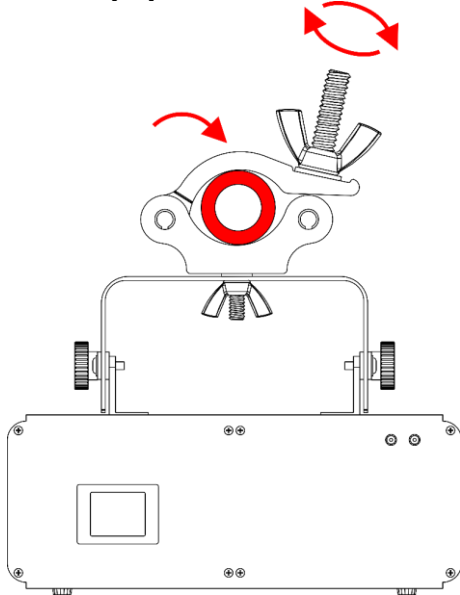
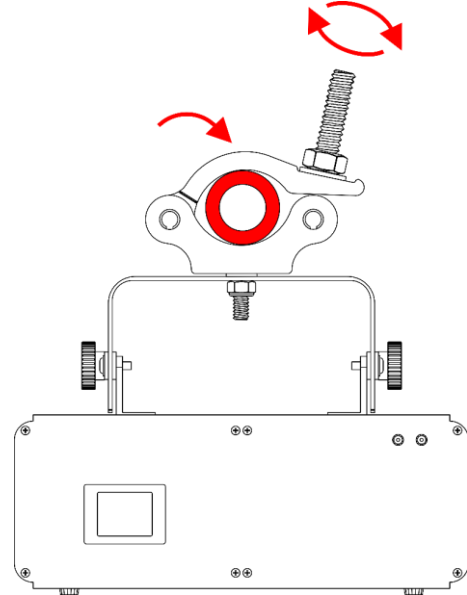

Fig. 07
Fig. 08
07) Put the device, with the installed load, around a tube (\varnothing 48–51 mm) and close the **lock (11)**. See Fig. 07 or Fig. 08.
08) Put the **hex nut (01)** (fixed installation, Fig. 08) or the **wing nut (02)** (temporary installation, Fig. 07) on the **hex bolt (03)** and turn it clockwise, to tighten the device around the tube.